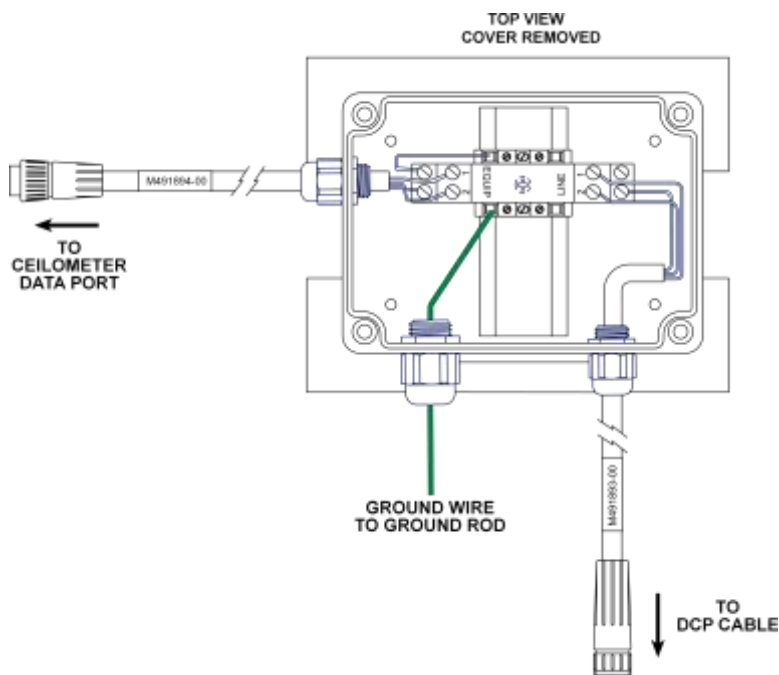

Figure 8. Connect Ground Wire to Terminal Block Inside Lightning Surge Suppressor
2. Strip off about ¼" of insulation from one end of the ground wire included with the Lightning Surge Suppressor and route the green ground wire with an orange stripe through the gland to one of the ground terminal blocks as shown in Figure 8. Tighten the screw to hold the ground wire in place.
1. Connect the M491894-00 cable from the Lightning Surge Suppressor (Figure 8) to the CEILOMETER DATA connector on the underside of the Ceilometer (see Figure 10).
2. Connect the data cable's circular connector to the M491893-00 cable connector from the Lightning Surge Suppressor (Figure 8).